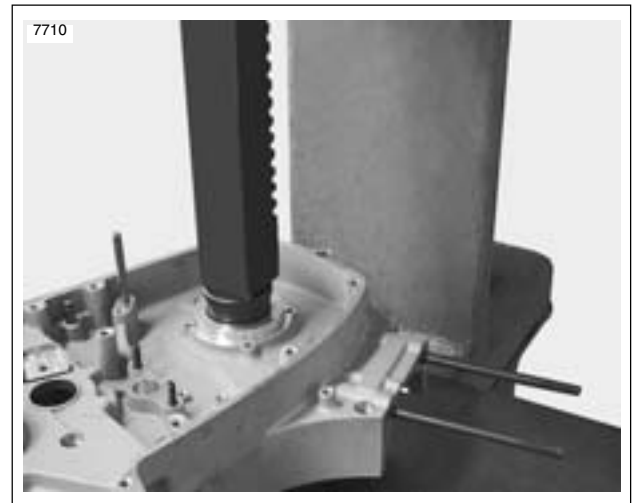

Figure 3-129. Left Outer Race Bearing Installation
See Figure 3-129. Use **SPROCKET SHAFT BEARING OUTER RACE INSTALLATION TOOL** (Part No. HD-39458) to install left and right outer races of sprocket shaft tapered roller bearings into left crankcase half. Always install left outer race prior to installing right outer race because the installer base is usable only when you follow this sequence of race installation.
7. See Figure 3-129. Insert shaft of installer plug through right outer race and into installer base. Press race into bore until firmly seated against retaining ring.
See Figure 3-129. Use **SPROCKET SHAFT BEARING/SEAL INSTALLATION TOOL** (Part No. HD-42579) to install sprocket shaft tapered roller bearings and seal.
8. See Figure 3-129. Install inner bearing.